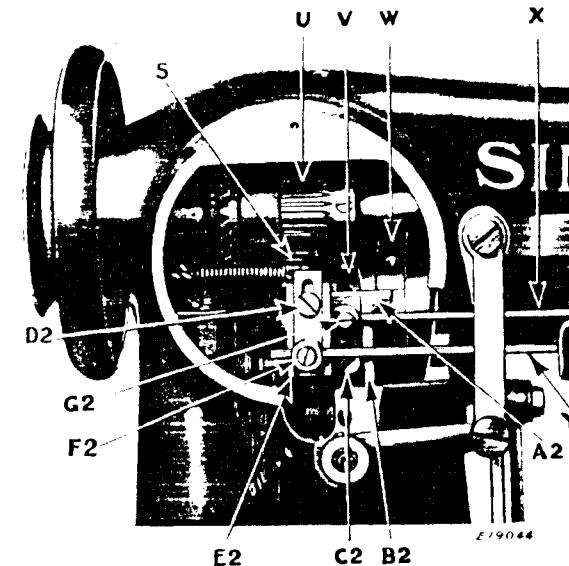
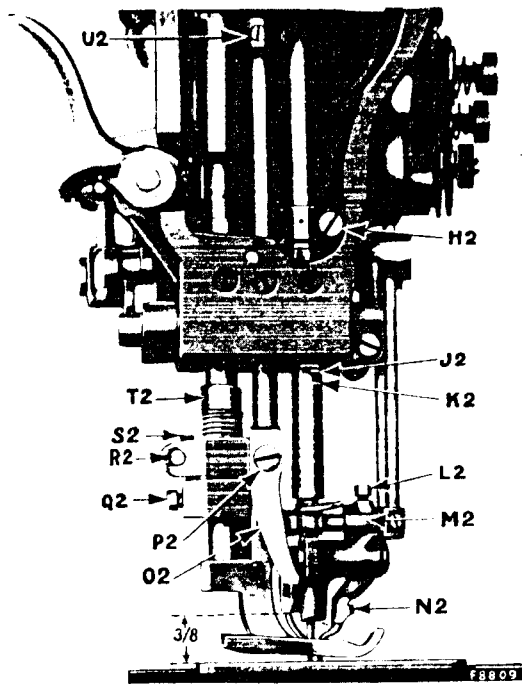
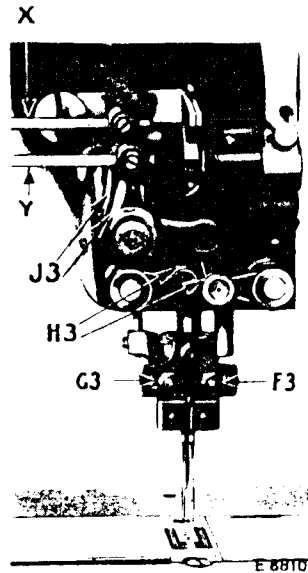
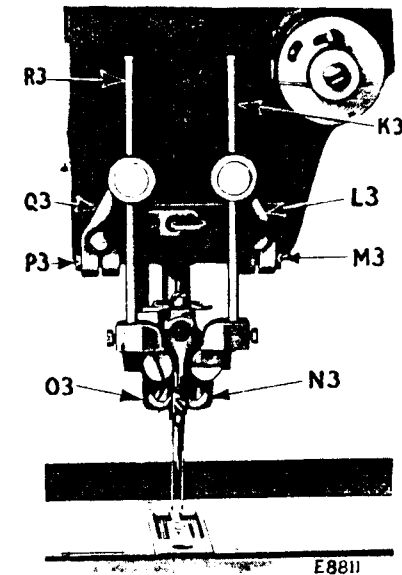

Fig. 15. Showing Timing Finger at Back of Machine For Timing Cams (S, V and W)
Fig. 16. Showing Upper Timing Mark on Needle Bar Centred with Lower End of Needle Bar Bushing at (J2)
Fig. 19. Needle Vibrating Mechanism at Back of the Machine
Fig. 20. Needle Vibrating Mechanism at Front of the Machine
Loosen the set screw (N2, Fig. 16) and put the auxiliary piercer up into the holder as far as it will go, then securely tighten the set screw (N2).
As the function of the auxiliary piercer is to open the fabric in advance of the piercer, it must be adjusted according to the length of stitch which is being made, so that the advance perforations made by it will be correctly entered by the piercer and needles. To make this adjustment, loosen the screw (L2, Fig. 16) and move the auxiliary piercer holder (M2, Fig. 16) forward or backward, as required, then securely tighten the screw (L2).
To determine whether the feed lifting cam and gear (S, Fig. 15), needle vibrating cam (V, Fig. 15) and feed driving
cam (W, Fig. 15) are correctly timed, raise the round cover plate at the rear of the machine. Turn the balance wheel over toward you until the needle bar is on its upward stroke, after having completed the stitch on the hem, and the **lower timing mark** (K2, Fig. 16) on the needle bar is just visible at the lower end of the needle bar bushing. When the needle bar is in this position, the horizontal marks on the needle vibrating cam (V) and feed driving cam (W) and the line on the side of the ground-off tooth of the feed lifting cam and gear (S) should be in line with each other and register at the top end of the needle vibrating lever (A2, Fig. 15). A slight deviation may then be made to obtain the results desired.
In case the cams (S, V and W) are in time with each other, but not in time with the needle bar, loosen the two set screws in the small gear (U, Fig. 15) and turn the feed lifting cam gear (S) until the lines on the cams (V and W) register with the end of the timing finger (A2), then tighten the two set screws. When making this adjustment, be sure to have the lower timing mark (K2, Fig. 16) on the needle bar just visible at the lower end of the needle bar bushing, when the needle bar is on its upward stroke after having completed the stitch on the hem.
Turn the balance wheel over toward you until the needle bar moves down to its lowest point. When the needle bar is in this position, the upper timing mark (J2, Fig. 16) on the needle bar should be just visible at the lower end of the needle bar bushing.
In case the needle bar is not set at the correct height, loosen the pinch screw (H2, Fig. 16) in the needle bar connecting stud and move the needle bar up or down until it is at the correct height, as instructed above, then firmly tighten the screw (H2) in the needle bar connecting stud.
To determine whether the hooks are correctly timed, turn the balance wheel over toward you until the lower timing mark (K2, Fig. 16) on the needle bar is just visible at the lower end of the needle bar bushing, when the needle bar is on its upward stroke. When the needle bar is in this position, the points of the hooks should be at the centre of the needles.
The needle vibrating mechanism is operated by the gear (U, Fig. 15) which drives the needle vibrating cam (V, Fig. 15) which in turn actuates the needle vibrating lever to which are attached the connections (B2 and E2, Fig. 15). The vibrating motion is transmitted from the needle vibrating lever to the needle holders (N3 and O3, Fig. 20) by means of the connections (B2 and E2, Fig. 15), the pitmans (X and Y, Fig. 19), the bell cranks (J3, Fig. 19), the links (H3, Fig. 19), the cranks (I3 and Q3, Fig. 20) and the rods (K3 and R3, Fig. 20), causing the spreading and drawing in action of the needles.
On the outside vibration of the needles, the pitmans (X and Y, Fig. 19) draw the needle vibrating rods (K3 and R3, Fig. 20) toward each other, by their connection with the needle holders (N3 and O3, Fig. 20). On the inside vibration of the needles, the pitmans (X and Y) spread the needle vibrating rods (K3 and R3).
As the needle vibrating pitmans (X and Y, Fig. 15) are independently mounted, they must be separately adjusted.
The lower pitman (Y, Fig. 15) controls the vibrations of the left or outside needle. To make the left needle vibrate farther to the left over the edge of the material, loosen the screw (F2, Fig. 15) and lengthen the lower pitman (Y), then securely tighten the screw (F2).
The upper pitman (X, Fig. 15) controls the vibrations of the right or inside needle. To make the inside needle vibrate farther to the right over the edge of the material, loosen the screw (G2, Fig. 15) and lengthen the upper pitman (X), then securely tighten the screw (G2).
Either needle can be set closer to or farther from the other by loosening the nuts (F3 and G3, Fig. 19) and moving the needle holders (N3 and O3, Fig. 20) as required, then securely tighten the nuts (F3 and G3).
The width of bight or extent of the lateral vibration of the needles is regulated by raising or lowering the needle vibrating connections (B2 and E2, Fig. 15) which are fastened by the screws (C2 and D2, Fig. 15).
of the piercer. If the points of the needles appear outside of the grooves of the piercer on the descending inside vibration, a very fine adjustment may be made by loosening the two screws (M3 and P3, Fig. 20) and swinging the needle vibrating cranks (L3 and Q3, Fig. 20) to the right or left, as may be required, after which securely tighten the two screws (M3 and P3).
When the piercer bar is at its lowest point, the bottom end of the piercer holder (O2, Fig. 16) should be $\frac{3}{8}$ inch above the throat plate, as shown in Fig. 16. The piercer bar can be set at the required height after loosening the set screws shown at U2 in Fig. 16. The piercer must not enter the fabric before the feed dog finishes its forward movement, otherwise clear openings cannot be made.
To set the outside foot plate lower than the inside foot plate, loosen the pinch screw (R2, Fig. 16) and turn the upright screw (S2, Fig. 16) outwardly, then tighten the pinch screw (R2). The pressure of the foot plate on the material should be only heavy enough to enable the feed to move the work along evenly regardless of variations in the thickness of the fabric to be hemstitched.
To increase the pressure of the outside foot plate on the material, loosen the set screw in the collar (T2, Fig. 16) and lower the collar to compress the spring, then tighten the set screw. For less pressure, raise the collar.